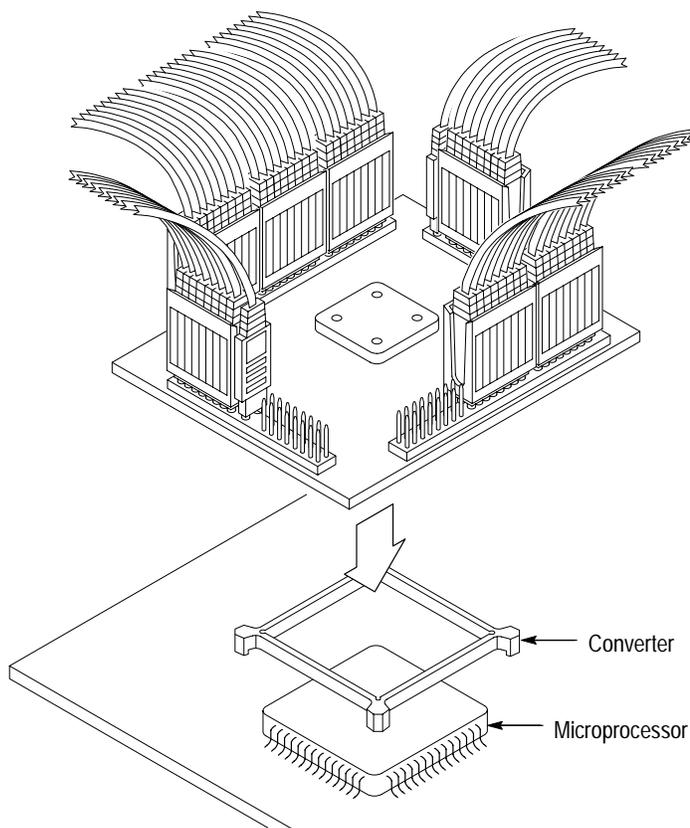

Figure 1–7: Placing a CQFP probe adapter onto the SUT
6. Place the CQFP-to-PQFP converter over your CQFP microprocessor as shown in Figure 1–7.
9. Place the probe adapter onto the SUT as shown in Figure 1–7.